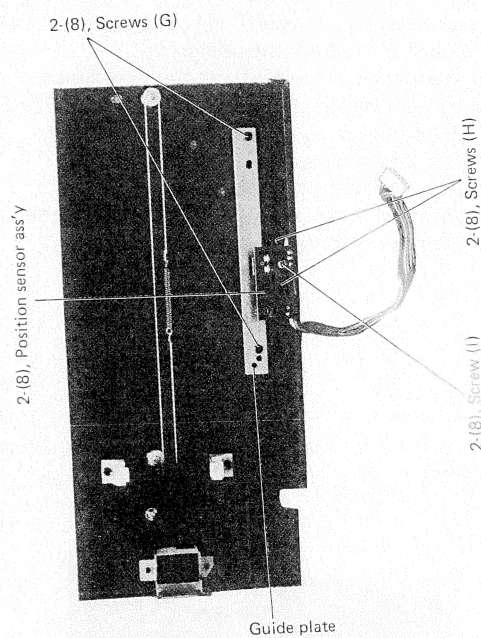

Fig. 7
- (8) Dismount position sensor PWB ass'y. (See fig. 7)
- 2. Remove 2 pcs. of screws (G) from guide plate. (See fig. 7)
- 3. Remove 2 pcs. of screws (H) from position sensor ass'y. (See fig. 7)
- 5. Remove one piece of each screw (I) from an upper PWB and a lower PWB. (See fig. 7)
- (9) Dismount LED PWB for record disc existence sensor.